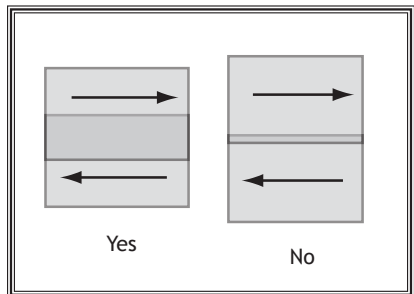

Figure 6. Overlap technique.
- Overlap each stroke by 50% while maintaining an even speed. This will ensure even coverage as shown in **Figure 6**. Overlapping less than 50%, as shown in the figure to the right, may lead to missed spots or streaky results.